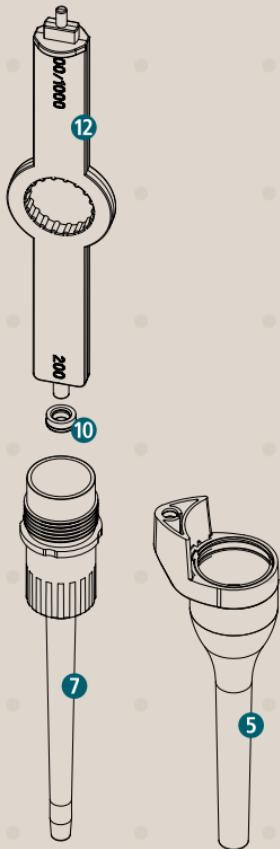

Fig. 6
- Remove the sealing ring 10 from the tip holder using the auxiliary tool (Fig. 6) and replace it (see section 8 Ordering Information for replacement sealing ring).